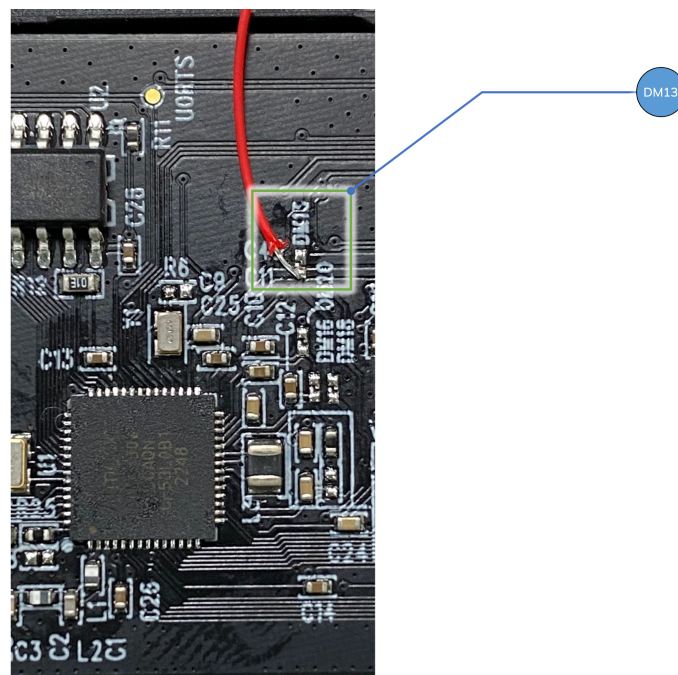

Figure 9 - Desolder DM13 to Disconnect VBATLI from HSC
- 2) Desolder DM13 to disconnect VBATLI from HSC, detailed as shown in Figure 9.